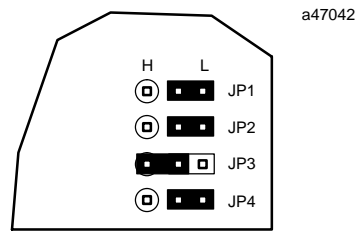

Figure 2-2. Address Selection Jumpers
Figure 2-2 shows an enlarged view of the address select jumpers. In the figure, jumpers JP1, JP2, and JP4 are shown in the logic low (L) position; and JP3 is shown in the logic high (H) position. When the module is shipped from the factory, all four jumpers are set to the logic low (L) position.